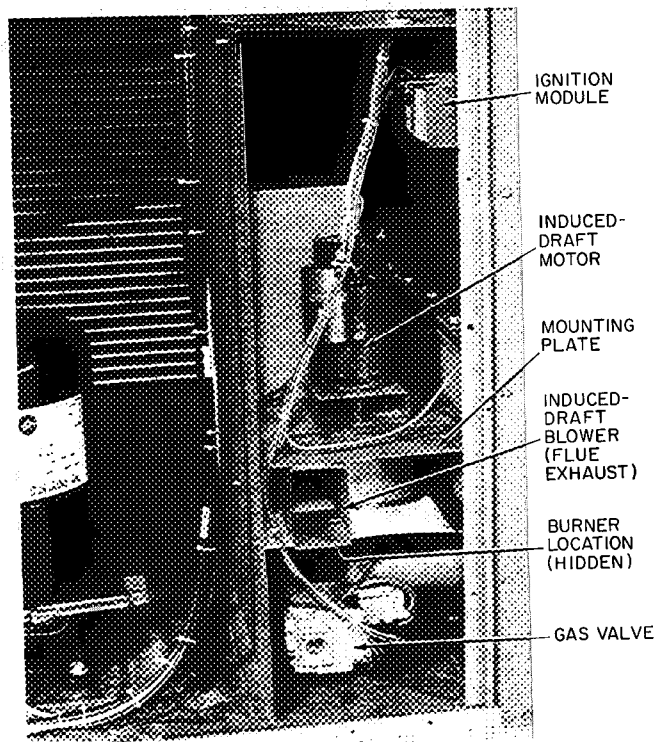

Fig. 22 — Burner Section Details
2. Remove the 5 screws that attach induced-draft motor mounting plate to blower housing (Fig. 22).
Burner Ignition — Unit is equipped with a direct-spark ignition 100% lockout system. Ignition module is located in burner section (Fig. 22). Module contains a self-diagnostic LED (light-emitting diode). During servicing refer to module nameplate for LED interpretation.
REMOVAL OF GAS TRAIN (See Fig. 22 and 23.)
REPLACEMENT OF GAS TRAIN (See Fig. 22 and 23.)